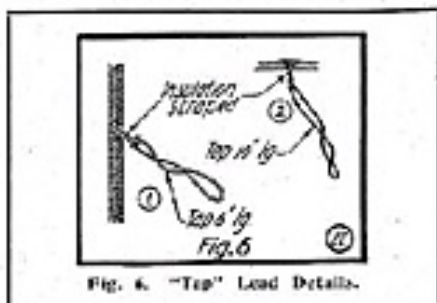
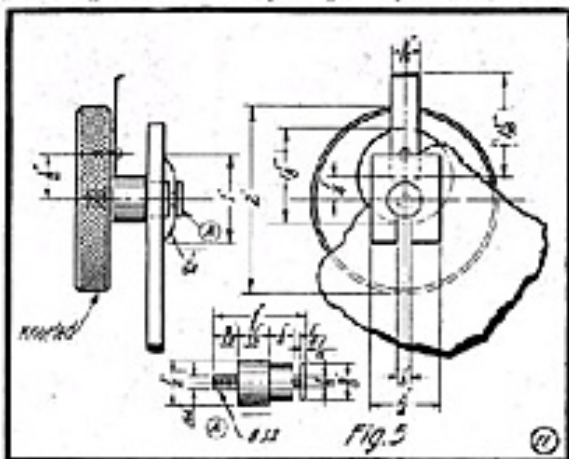

Fig. 6. "Tap" Lead Details.
Fig. 5. Details of Secondary Switch.
The taps are made in the following order: beginning of winding, end of first turn, end of second turn, end of third, 7, 9, 12, 16, 23, 26, 28, 32, 36, 40, 44, 48, 52, 53, 60, 64, 68, 72, 76, 80, 84, 88, 92, 96, 100, 104, 108, 112, 116, 120. (1) Fig. 5 shows the method of making taps. The taps should be made in a straight line down the coil; however, the first ones should be staggered a little, so the bare wires will not come in contact with each other. Be careful in scraping the insulation where the taps are twisted (see Fig. 6) not to cut the wire. By scraping the wire in this way losses from taps are minimized. Leave a good 6 inches for connections to the switch. It is well to run a little sealing wax over the wire where the taps are made. When the winding is complete fasten the end through two holes as before, leaving enough for connection. Next, cut up four strips of thin cloth, 4 inches by $\frac{1}{2}$ inch, and soak them in fairly thick shellac. Then lay them lengthwise on the winding, 90 degrees apart. Cut off the ends of the cloth even with the ends of the tube; do not turn them under. This
28 double silk covered wire is required for the secondary coil. The taps (see (2) Fig. 6) are made differently. Instead of coming from the outside, they must come from the inside of the core. Beginning 1/16 of an inch from the end of the secondary core, mark off 3/10 of an inch 10 times. At these points make holes just large
Fig. 5 gives the dimensions of this switch. This contact is also made with three thicknesses of brass strip. The connection is made by a copper strip soldered to the spring on the back side. Although it is not necessary, it is best to round and bevel the edges of the handles as Fig. 3 shows.